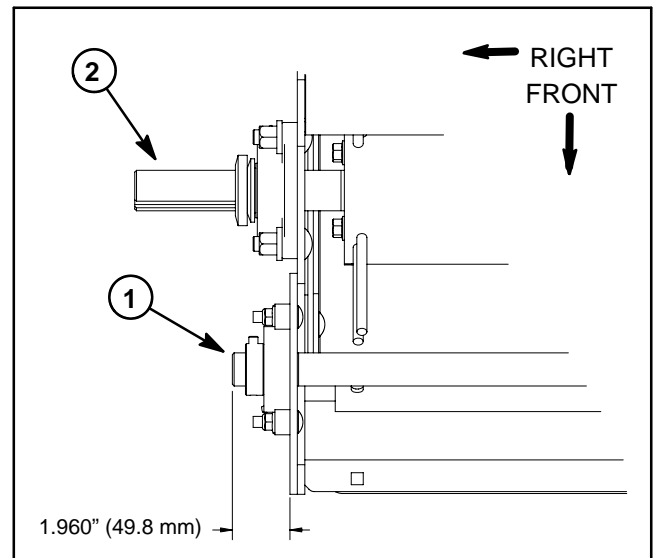

Figure 35
3. Secure both bearings to machine with two (2) carriage screws, flat washers and flange nuts.
4. Rotate corner shaft a few times. Position corner shaft in bearings so right end of shaft is 1.960" (49.8 mm) from side of machine frame (Fig. 35).